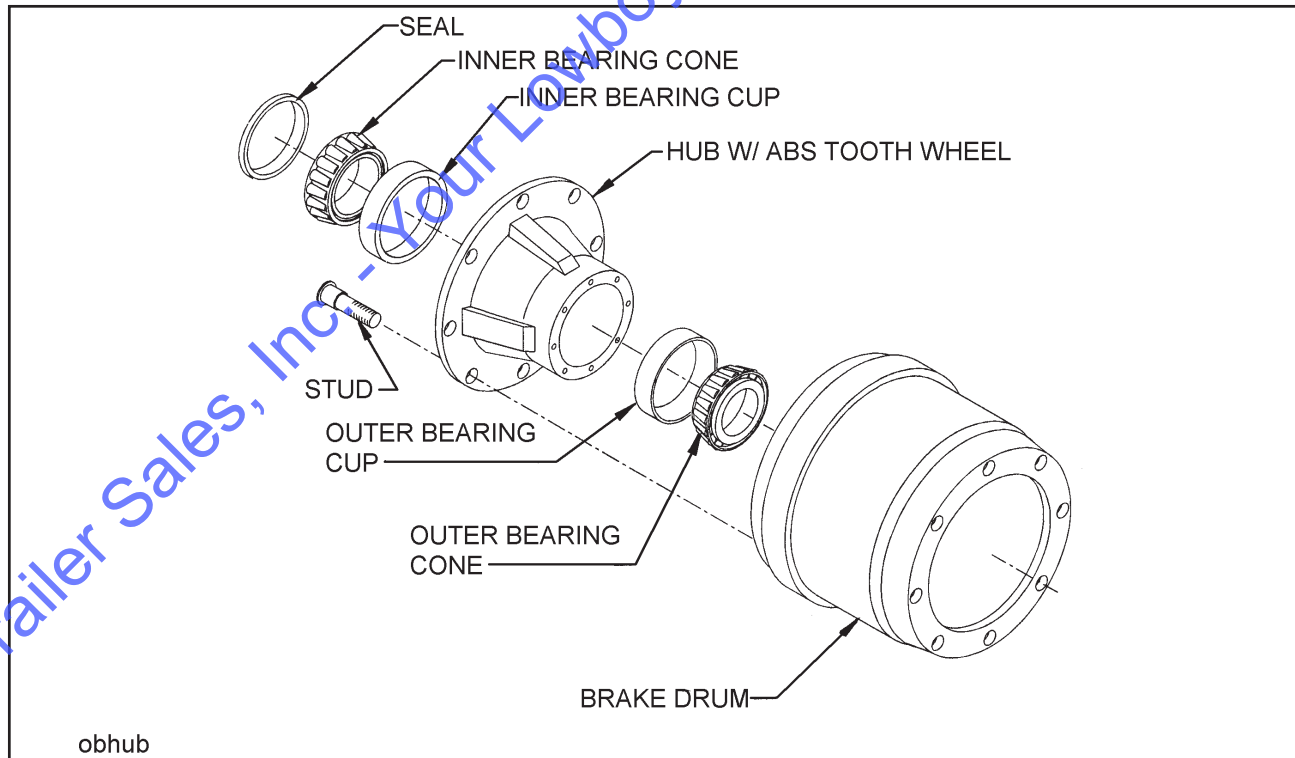

Figure 4-13 Outboard Mount Hub and Drum
4-9.4 Replace the hub and drum as follows **(See Figure 4-13):**
- a. Remove the brake drum **(See Figure 4-13)**. It may be necessary to release the slack adjuster.